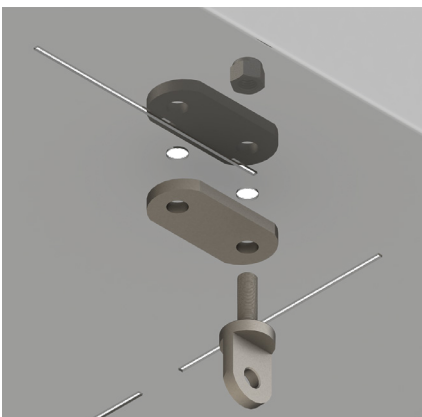

Fig.1
II. Tighten nuts enough to ensure needing a screwdriver for leverage to pivot swing bolts (**Fig.1**).
I. Tighten nuts enough to ensure needing a screwdriver for leverage to pivot swing bolts (**Fig.1**).